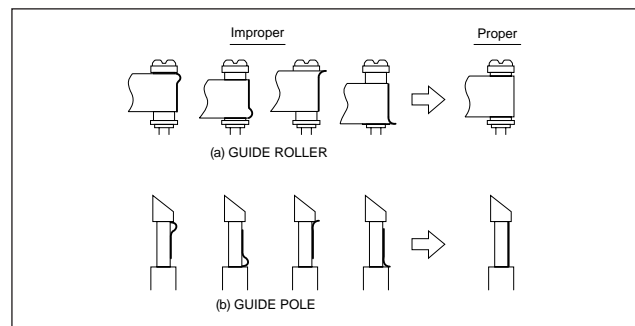
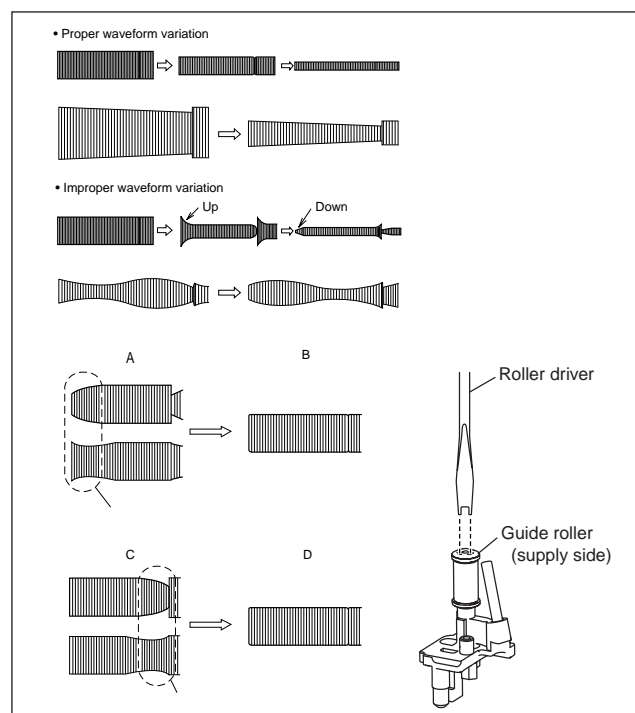

Fig. 3-2-2a
Fig. 3-2-2b
- To prevent damaging the alignment tape in the compatibility adjustment, prepare a cassette tape (for self-recording/play-back), perform a test on it by transporting it and making sure that the tape is not bent by the tape transport mechanisms such as in the guide rollers. (See Fig. 3-2-2a)
- (1) Play back the alignment tape (A1).
- (2) Apply the external trigger signal to D.FF (E), to observe the V.PB FM waveform at the measuring point (D).
- (3) Set the VCR to the manual tracking mode.
- (4) Make sure that there is no significant level drop of the V.PB FM waveform caused by the tracking operation, with its generally parallel and linear variation ensured. Perform the following adjustments when required. (See Fig. 3-2-2b.)
- (5) Reduce the V.PB FM waveform by the tracking operation. If a drop in level is found on the left side, turn the guide roller of the pole base assembly (supply side) with the roller driver to make the V.PB FM waveform linear. If a drop in level is on the right side, likewise turn the guide roller of the pole base assembly (take-up side) with the roller driver to make it linear. (See Fig. 3-2-2b.)
- (6) Make sure that the V.PB FM waveform varies in parallel and linearly with the tracking operation again. When required, perform fine-adjustment of the guide roller of the pole base assembly (supply or take-up side).
- (7) Unload the cassette tape once, play back the alignment tape (A1) again and confirm the V.PB FM waveform.
- (8) After adjustment, confirm that the tape wrinkling does not occur at the roller upper or lower limits. (See Fig. 3-2-2a.)
**[Perform adjustment step (9) only for the models equipped with SP mode and EP (or LP) mode.]**
- (9) Repeat steps (1) to (8) by using the alignment tape (A2).